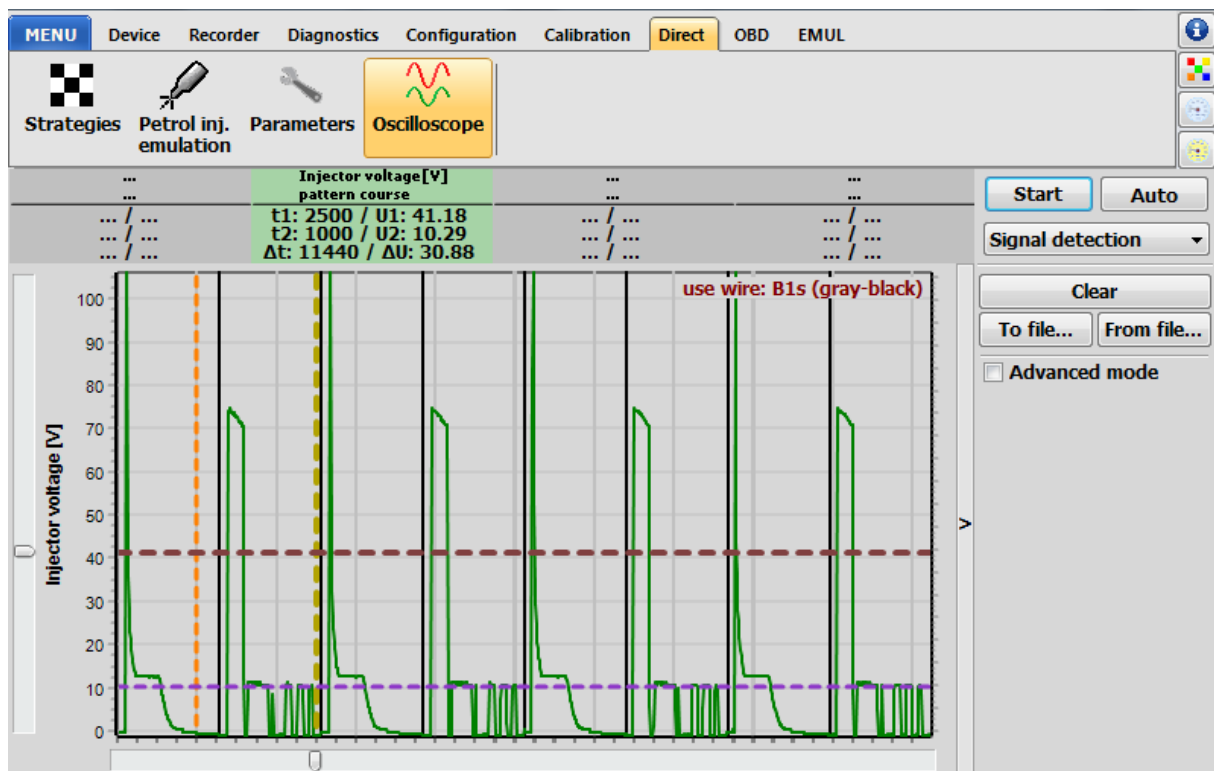

Fig. 2.122 Oscilloscope window with recorded waveforms
- **Signal detection (Fig. 2.122)** – voltage waveforms from the first petrol channel are collected, divided into 8 sections. The mode used to determine which injector wire should be cut.